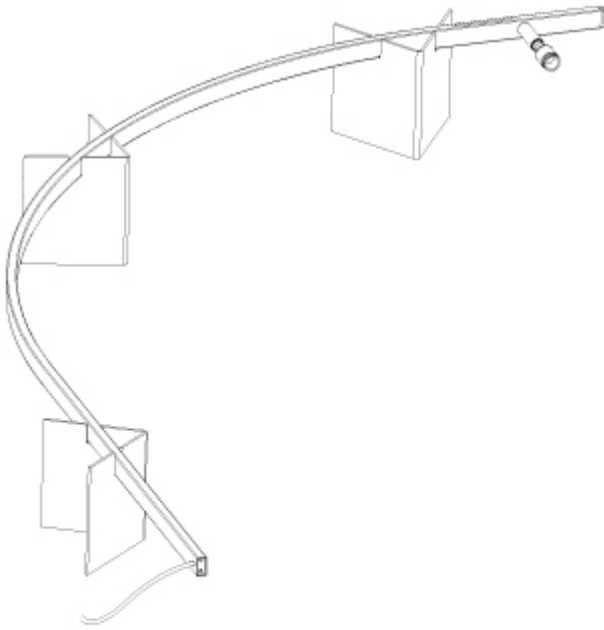

Figure 1
2. Fold the three cardboard assembly supports and use them to prop up the lamp stem as shown in the image below. This setup will allow you to attach the weighted base without risking damage to the lamp stem. (Figure 1)